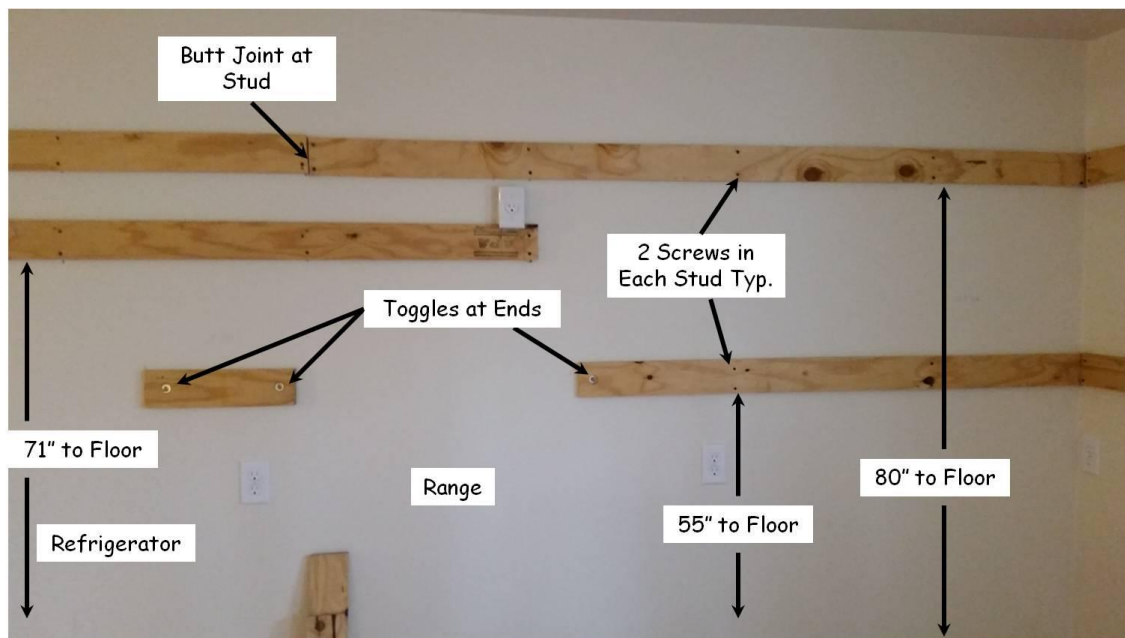

Figure 17-1. Kitchen Cabinet Support Strips.
4. The upper kitchen cabinets will be installed by mounting them to 2-7/8" wide strips of 3/4" thick plywood. This installation method is used because the screws holding up the cabinets go into the continuous plywood, rather than having to precisely locate the cabinet screws to hit a stud while holding them in place. The cabinets are 30" tall, with the top of the cabinet 84" and the bottom 54" from the floor. The top plywood support strip will be located about 1" down from the top, and the bottom of the lower strip about 1" up from the bottom of the cabinets. The following steps refer to Figure 17-1.